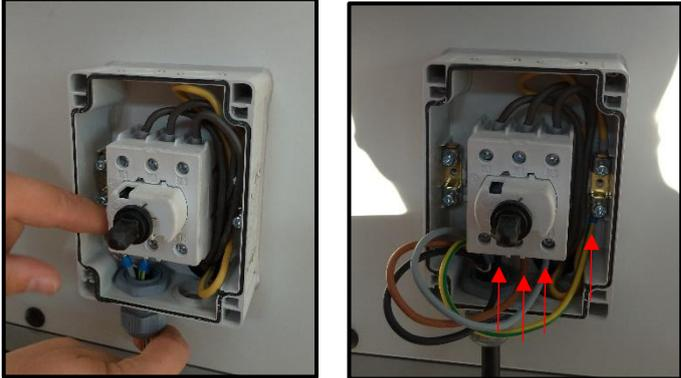

Fig. 74
5. Connect the cables to the terminals and close the main switch cover. Refer to chapter 8 for cable connections. (Fig. 74)